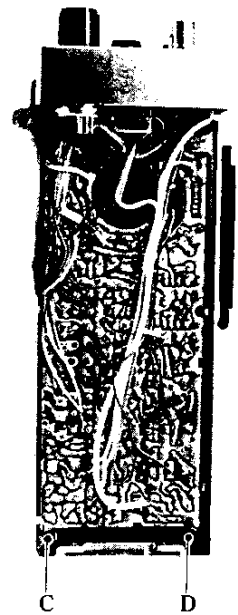

Fig. 13
- (2) Remove screws C and D in Fig. 13. The front panel may now be carefully removed. Be certain not to put undue strain on the interconnection wires.